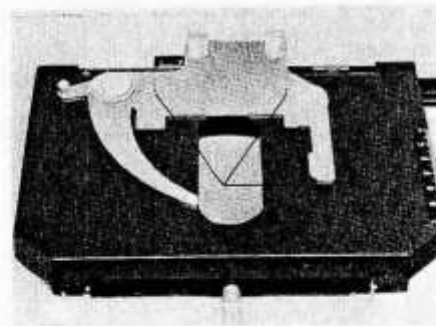

Fig. 11
- ◎ Stage clips for use with immersion objectives. (Fig. 11)